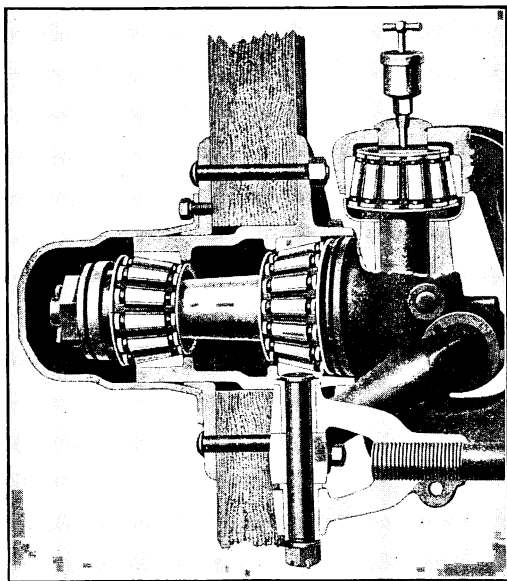

FIG. 110.—Timken roller bearings. As used in the front wheel of an automobile.
6. Four men raise an anchor weighing $1\frac{1}{2}$ tons, with a capstan (see Fig. 110) having a barrel 9 in. in diameter. The circle described by the hand-spikes is $13\frac{1}{2}$ ft. in diameter. How much force must each man exert?
(c) Another very common method of reducing friction is by the use of *lubricants*. The oil or grease used fills up the irregularities of the bearing surfaces and separates them. *Rolling friction* is frequently substituted for sliding friction by the use of ball and roller bearings. These are used in many machines as in bicycles, automobiles, sewing machines, etc. (See Fig. 110.)